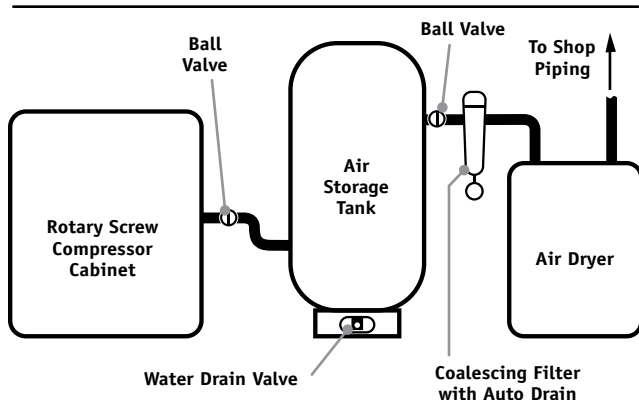
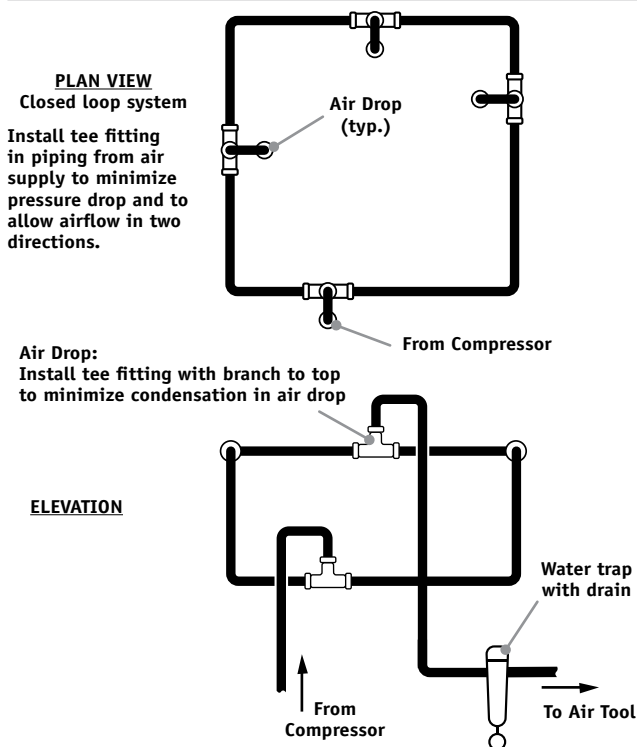

Figure 4: Basic Piping Diagram
Figure 5: Closed Loop Installation
- Install piping as shown in Figure 4. Refer to figure 5 for recommended closed loop installation.